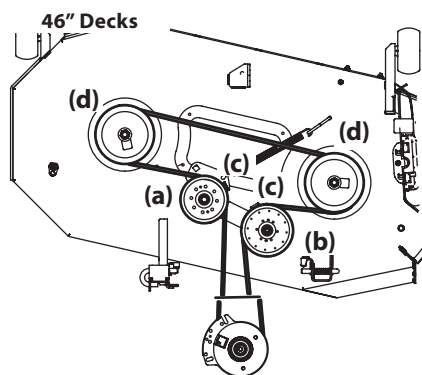
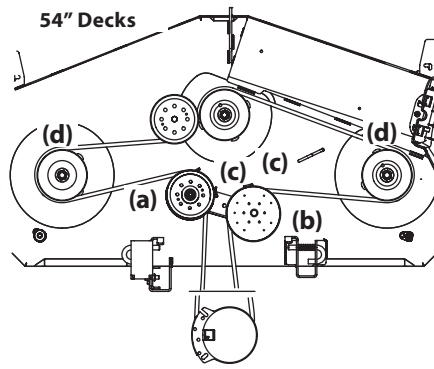

Figure 4-17
Figure 4-18
- Loosen, but do not remove the hardware on the right (a) and left idler pulley (b). Refer to Figure 4-17 for 34" decks, Figure 4-18 for 42" decks, Figure 4-19 for 46" decks and Figure 4-20 for 54" decks.